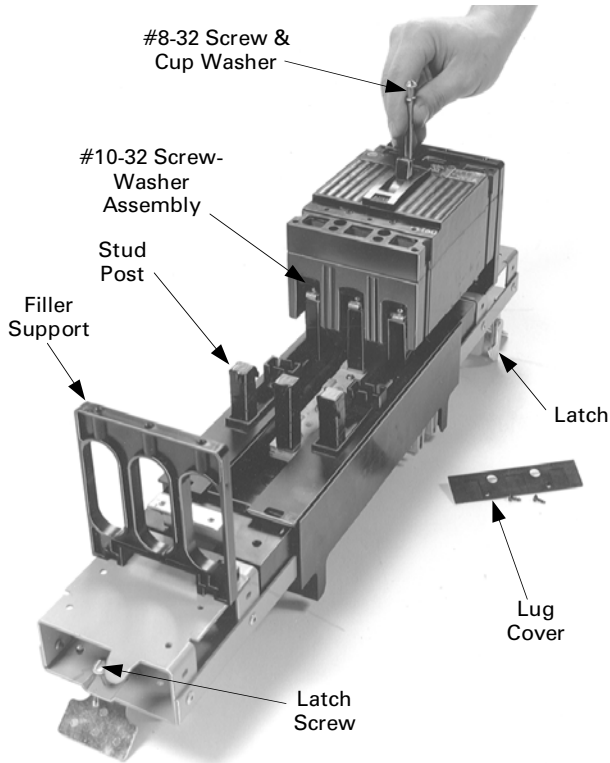

Figure 4. Installing the breaker on the module.
- 3. Install the circuit breaker.** Remove the lug cover, if present. Place the ON side of the breaker over the stud posts, as shown in Figure 4. Secure the breaker to the module with #10-32 screw and washer assemblies and #8-32 x 2 3/4" screws with cup washers. After all screws are in place, tighten the #10-32 screws to 27–32 in-lb and the #8-32 screws to 15–20 in-lb. Replace the lug cover, if present.